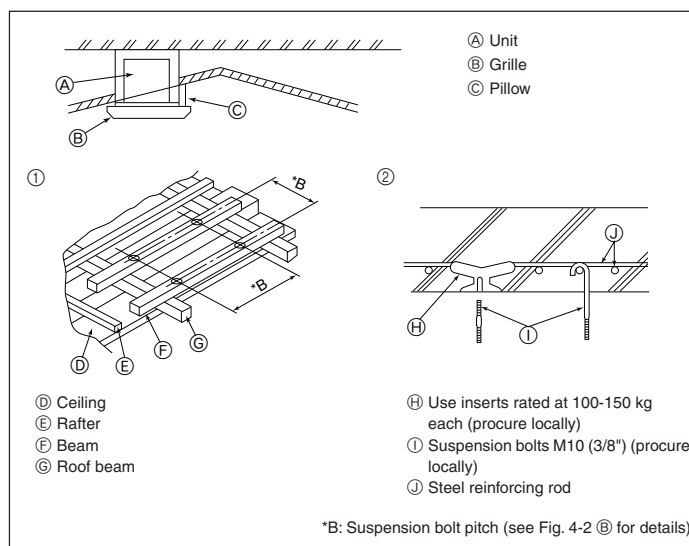

Fig. 4-4
4.4. Suspension structure (Give site of suspension strong structure) (Fig. 4-4)